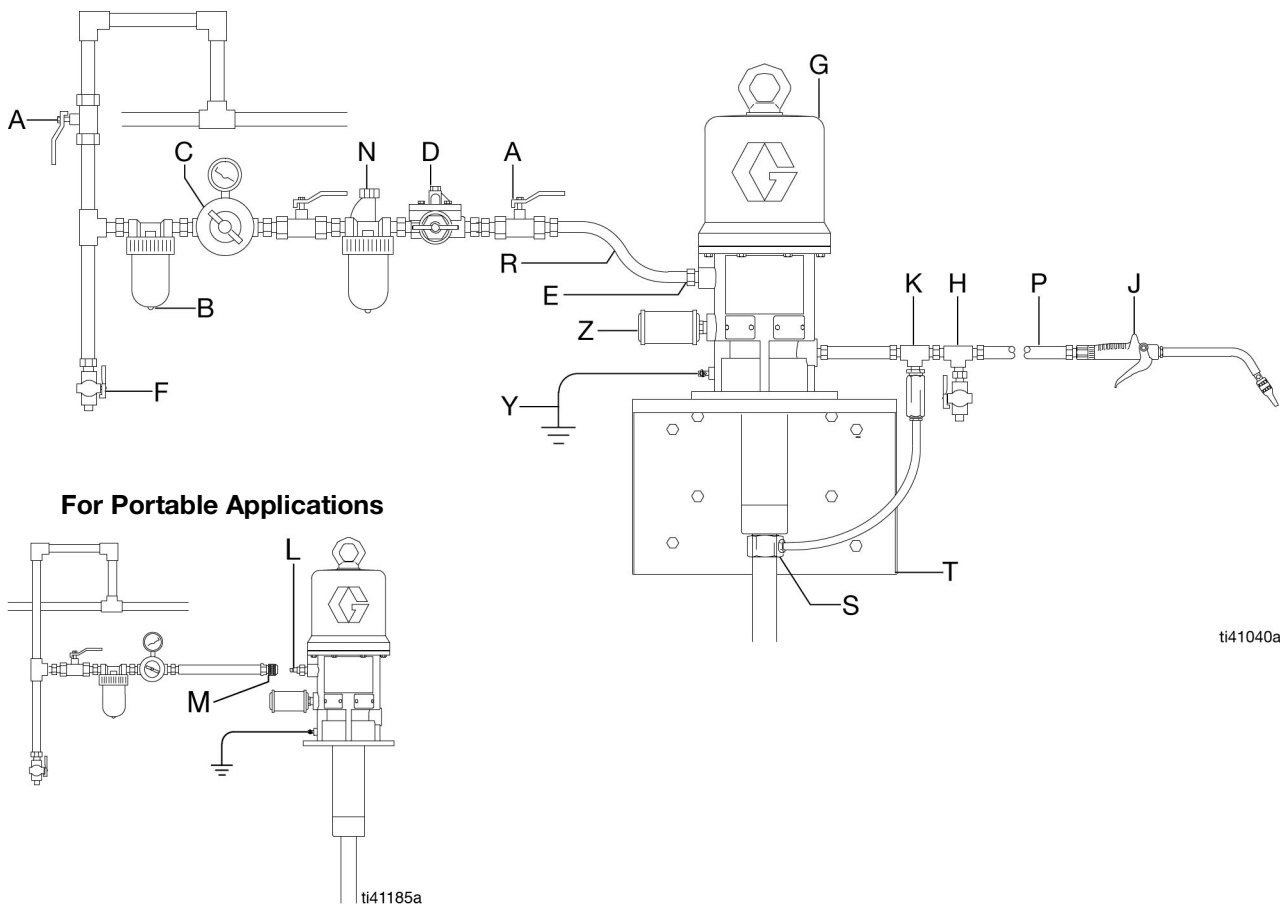

FIG. 1: Typical Installation
The typical installation shown in FIG. 1 is only a guide for selection and installation of a pump. It is not an actual system design. Contact your Graco representative or Graco distributor for assistance in the design of a suitable system.
Install the accessories shown in FIG. 1.
- Insert the muffler (5) into the 3/4 npt muffler port and tighten using a wrench on the flats of the muffler near the male threads.
- Install an air line lubricator (N) for automatic air motor lubrication.
- Install an air regulator (C) to control the pump speed and pressure.
- Install an air line filter (B) to remove harmful dirt and contaminants from the compressed air supply.
- Install bleed-type master air valve (A) to relieve air trapped between it and the motor when the valve is closed, and to isolate the accessories for servicing. See FIG. 1. To order a bleed-type master air valve, order Part No. 107142.
- As an alternative to a bleed-type master air valve, installation of an air line female quick-disconnect coupler (M) and male quick-disconnect pin fitting (L) (see FIG. 1) can serve as an air-bleed device.
- Install a ball valve (F) at the end of the line drop for releasing moisture that collects in the line (FIG. 1).
- Install a drain valve (H) near the pump fluid outlet to relieve fluid pressure in the hoses and gun when opened. To order a fluid drain valve, order Part No. 210658.
- Install a pump runaway valve (D) to shut off the air to the pump if the pump accelerates beyond the pre-adjusted setting, which can be caused by a depleted fluid supply. A pump that runs too fast can be seriously damaged. To order a 3/4 npt(f) inlet and outlet pump runaway valve, order Part No. 215362.
- Install a thermal relief kit (K) on the dispensing valve side of the pump. To order a 1600 psi (11 MPa, 110 bar) thermal relief kit, order Part No. 240429.
- Install a suitable fluid hose (P) and dispensing valve (J).
The pump shown in FIG. 1 is a wall mounted universal pump, Model 205626. To order the wall mounting bracket, order Part No. 238425.